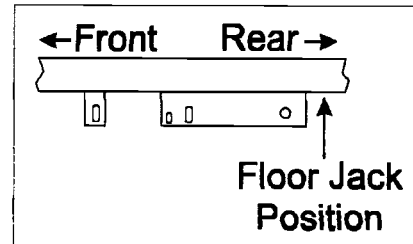

Fig. 1
3. Use a floor jack of sufficient capacity to raise the passenger's side (door side) of the trailer. Place the floor jack under the main frame rail right behind the axle mounting plate. (Fig. 1) Raise the frame just enough to take some weight off the wheel.